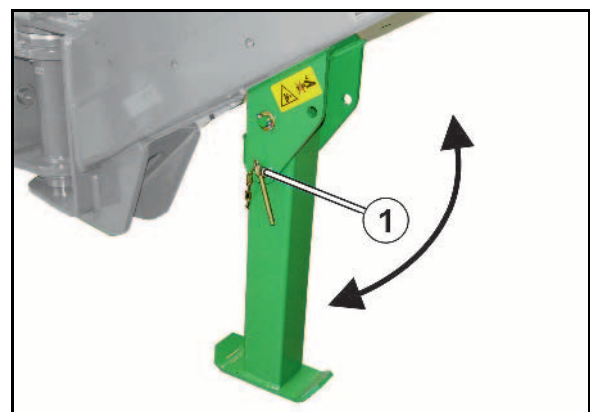

Fig. 54
- the tramline control system on the distributor head uses sliders (Fig. 54/1) to block the seed feeding lines to the seed lines (Fig. 54/2) of the tramline coulters
The seed supply to the tramline coulters is interrupted as soon as the electric motor (Fig. 54/3) closes the appropriate seed tubes (Fig. 54/2) in the distributor head.
A sensor (Fig. 54/4) checks whether the sliders (Fig. 54/1), which open and close the seed line tubes (Fig. 54/2), are working properly.